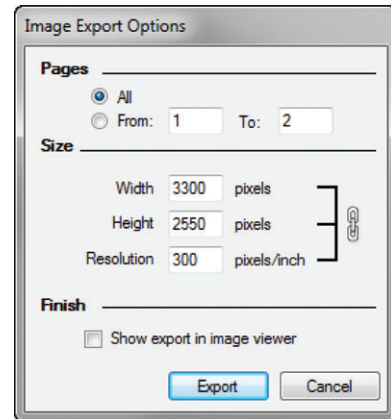

Figure 19.10 LayOut image export options
3. In the Image Export Options dialog, which is automatically launched, choose which LayOut presentation pages will be exported as well as the image resolution (Figure 19.10). Typically, 300 pixels/inch is an acceptable high-resolution export for print, and 72 pixels/inch is an acceptable resolution for screen presentations, such as a website.